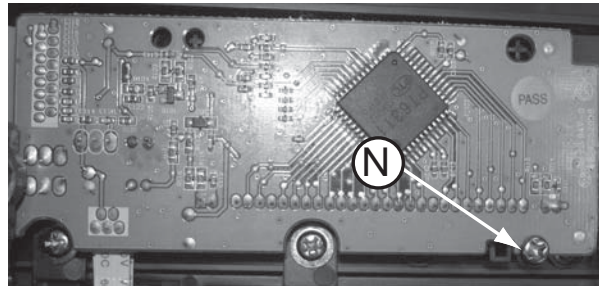

Figure 15
- 1) Loosen 1 screw "N" on the top of VFD board to remove the VFD board as shown in figure 15.